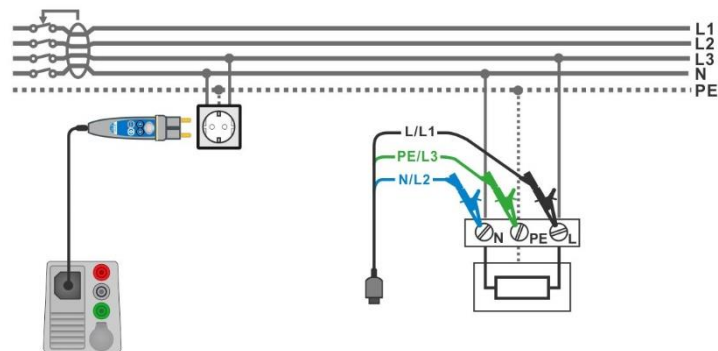

Figure 7.34: Connecting the Plug commander and the 3-wire test lead
▶ Connect L, N and PE of 3-wire test lead or Plug commander to the object under test, see Figure 7.34 .
- ▶ Connect 3-wire test lead or Plug commander to the object under test, see *Figure 7.34*.
<ul style="list-style-type: none"> <li>› Enter the RCD Auto function.</li> <li>› Set test parameters / limits.</li> <li>› Connect test cable to the instrument.</li> <li>› Connect 3-wire test lead or Plug commander to the object under test, see Figure 7.34</li> <li>› Start the measurement.</li> </ul>	Start of test